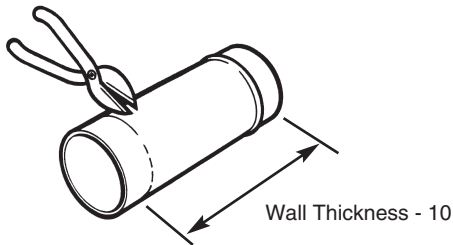

Fig. 63
5. Mark off the dimension, wall thickness - 10mm (³/₈ in), measuring from the beaded end of the duct and cut off the remaining length of the duct. Ensure that the cut is square and reasonably straight (Fig. 63).